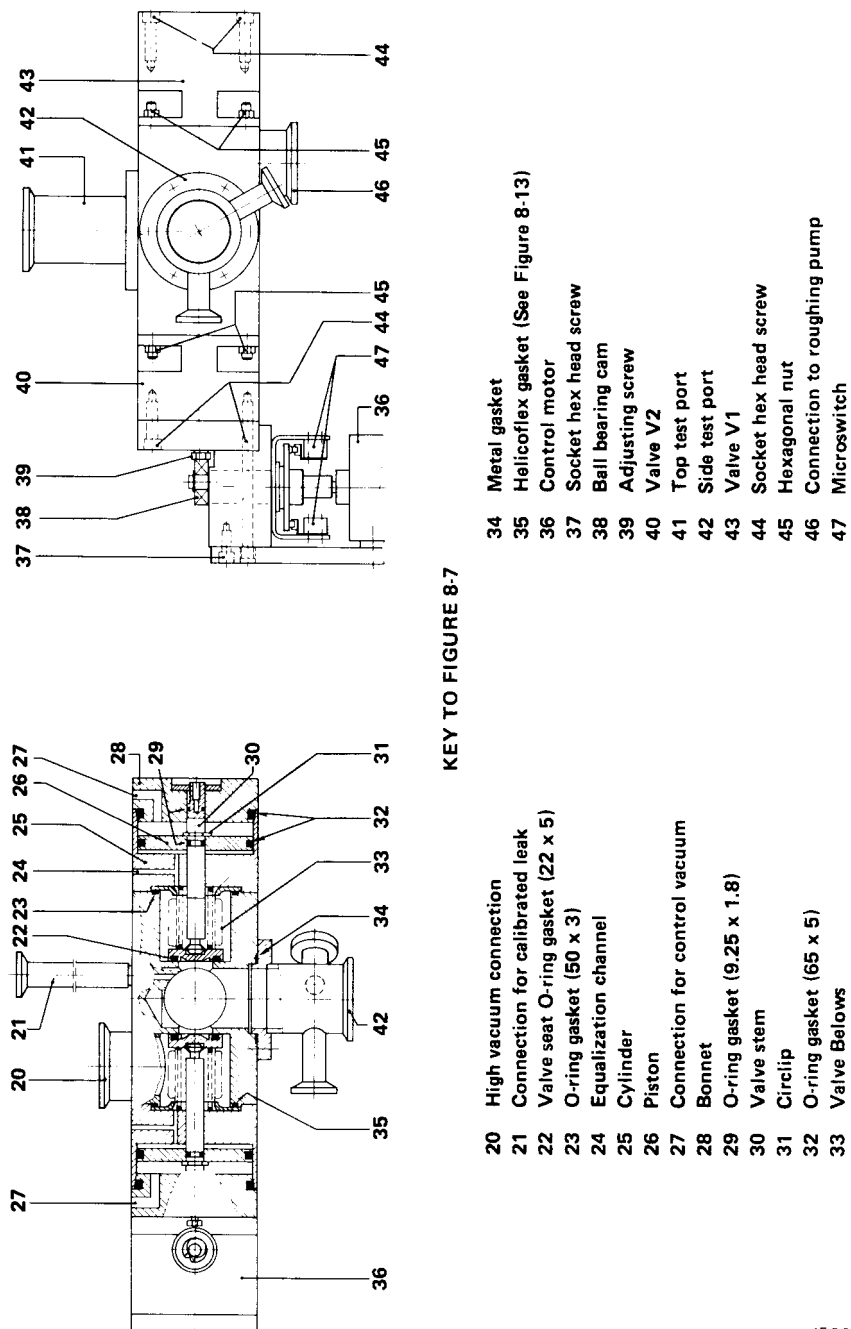

Figure 8-7 - Cross Sectional and Side View of the Valve Block
1. Remove the four hexagon nuts (45) that secure the valve to the block and remove the valve assembly from the block.
2. Remove the old valve seat O-ring (22) from the groove in the end on the bellows (see Figures 8-7 and 8-8).
4. Install the new O-ring (22) into the groove in the valve seat as follows (see Figures 8-7 and 8-8).
- a. Apply a thin film of high-vacuum grease to the O-ring (22).
5. Install a new seal for the drive mechanism before reassembling the valve block (see Figures 8-7 and 8-8). Valve V1 uses an O-ring seal (23). Be sure to gradually tighten the four nuts crosswise so that the O-ring is sealed evenly. We recommended helicoflex metal gasket (Part No. 230-05-105) for valve V2. See Section 8-9-2-3 for instructions for installing helicoflex gaskets (35).
- a. Remove the two M6 x 80mm capscrews that secure the V2 control motor to the valve block (see Figure 8-7).
2. Remove the allen-head capscrews (44) from the bonnet and withdraw the bonnet (28) from the connecting rod (30) (see Figures 8-7 and 8-8).
3. Remove the two O-rings (29) and the circlip (31) from the connecting rod (30) (see Figure 8-7 and 8-8).